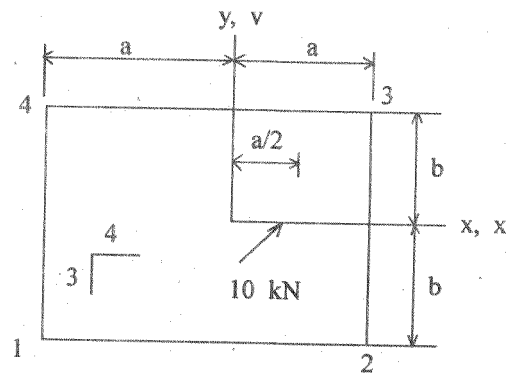

Fig. 4
14. Determine the nodal load vector for the point load acting on a Q_4 element as shown in Fig. 4.